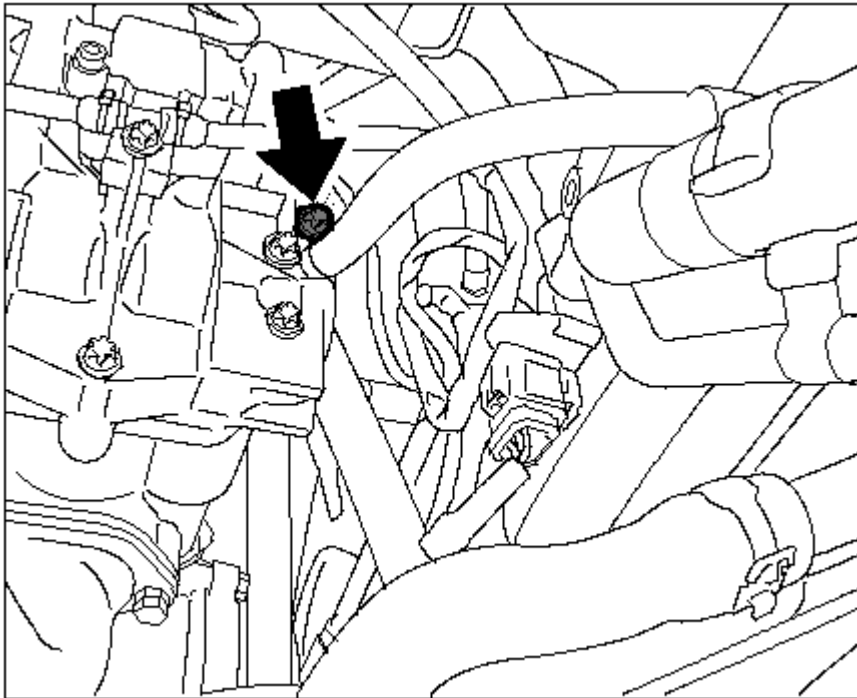

Fig. 2: Engine ground strap
6. Remove ground strap by unscrewing the Torx screw (M8 x 30) -**arrow-** . See **Fig. 2**.